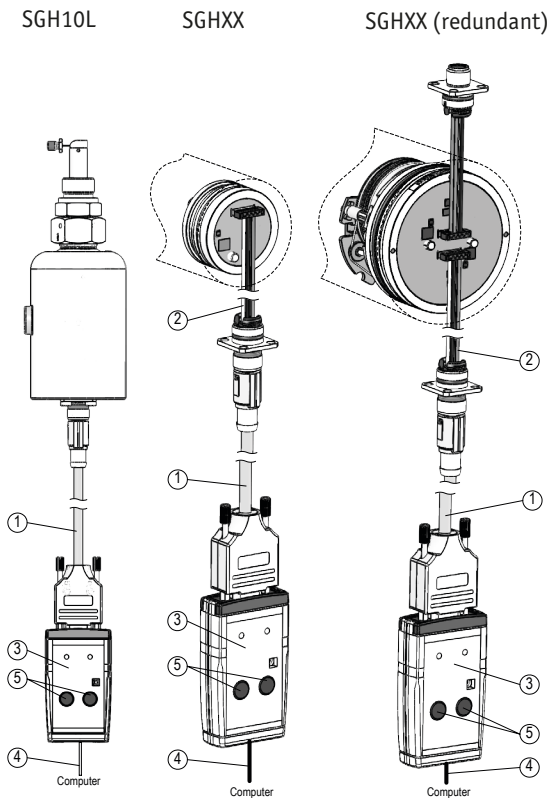

Fig. 1: Connection when installed with KV1H or on SGH10L with programming cable M12
The cable encoder is parameterized using one of the programming cables supplied ① (M12). The programming cable ① is connected to the SGHXX via the KV1H ② cable connection (see Fig. 1). Only use the version that corresponds to the encoder.